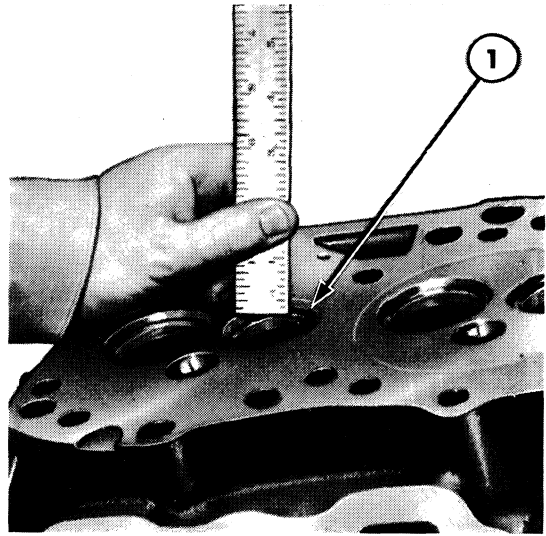
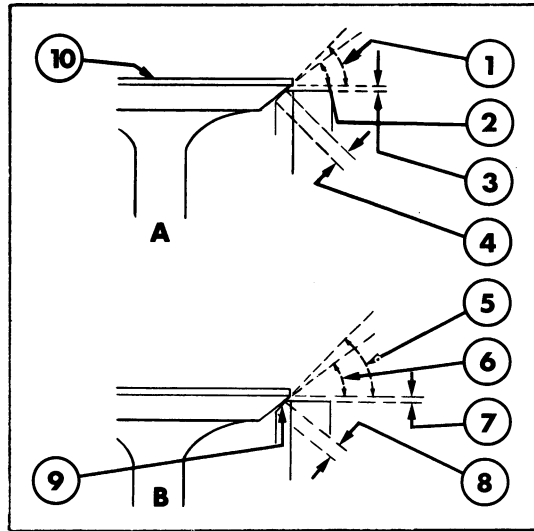
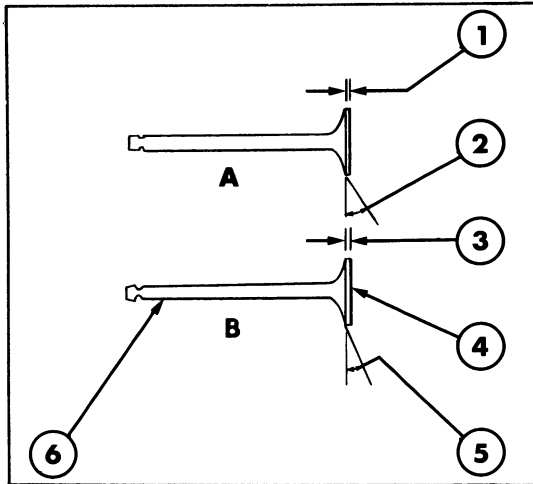

Figure 15
Figure 17
Figure 20
6. Measure the width of the valve seats, Figure 15, and reface the seats if they do not meet the specifications shown in Figure 17.
NOTE: Reface the valve seat and face at the same time so the finished measurements correspond to Figure 17.
The critical inspection points of the valves are shown in Figure 20. Inspect the valve face and the edge of the valve head for pits, grooves, scores or other defects. Inspect the stem for a bent condition and the end of the stem for grooves or scores. Check the valve head for cracks, erosion, warpage or burn. Minor defects such as small pits or groves, can be removed.
The valve refacing operation should be closely co-ordinated with the valve seat refacing operating so the finished angle of the valve is $\frac{1}{2}^\circ$ less than the valve seat to provide an interference angle for better seating, Figure 17. Adjust the refacing tool to obtain a face angle of $44\frac{1}{2}^\circ$ or $29\frac{1}{2}^\circ$, Figure 20.